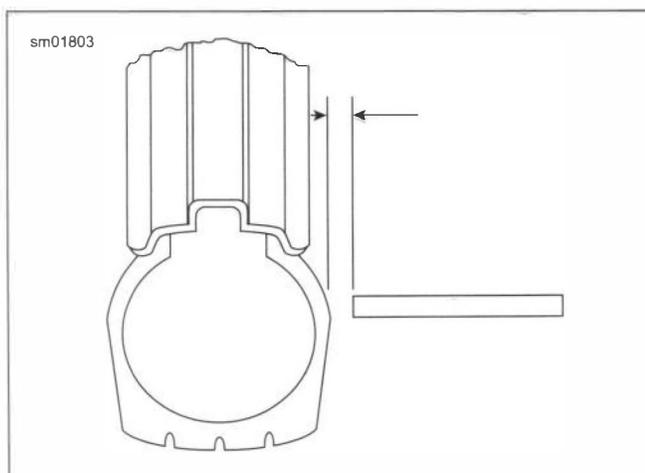

Figure 3-18. Checking Tire Lateral Runout
2. See Figure 3-18. Spin the wheel and measure lateral runout from a fixed point to a smooth area on the tire sidewall.